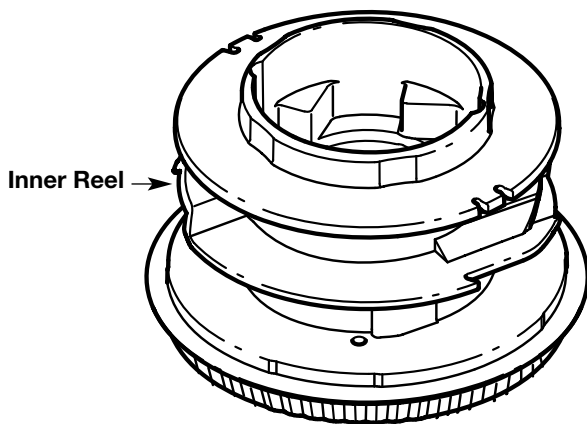

Fig. 25
4. Remove any existing line from the inner reel before cleaning. Remove any debris or grass from the knob, spring, inner reel, and foam seal. Wash the inner reel with warm soapy water (Fig. 25).